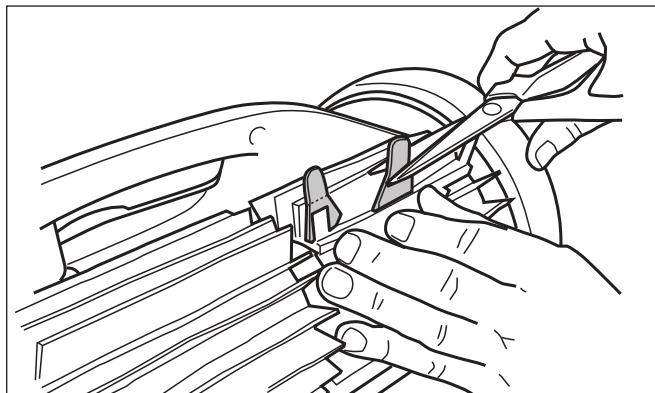

Figure 24. Cut Tabs
5. Use a pair of scissors to cut the tabs $\frac{3}{4}$ inch from the heel so that they are no higher than the cleaning blade (Figure 24).